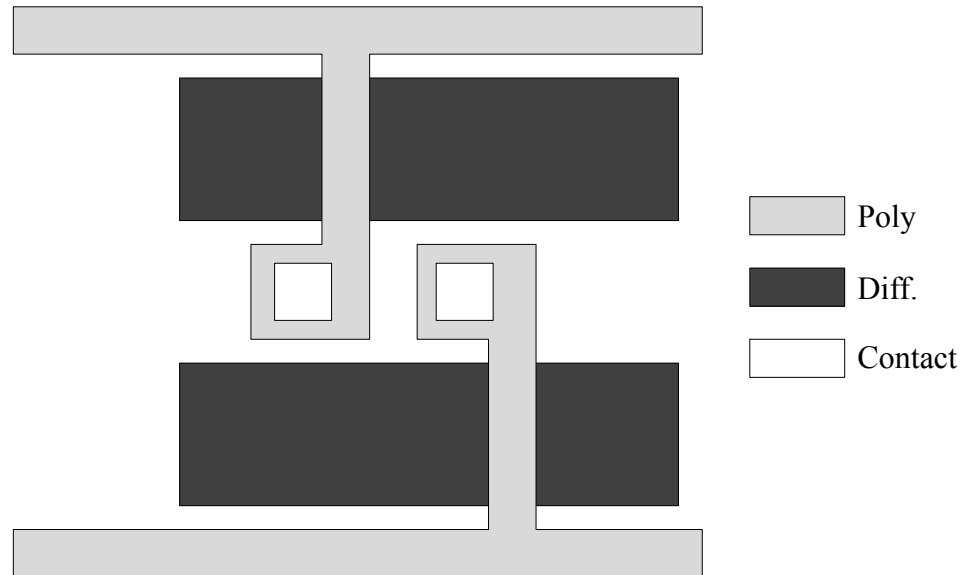

Figure 5. Layout for Problem 4.5.
4.5 (5 Points) – Use Figure 5 below to answer the next 2 questions about RET.
- (a) In Figure 5 above, indicate where the *polysilicon* mask will differ from the layout by drawing serifs, notches, and/or hammerheads in the correct locations.
- (b) Which design rules will be affected by the changes made to Figure 5 and how (increase or decrease, e.g., “metal-metal spacing increases”, etc.)? Explain.